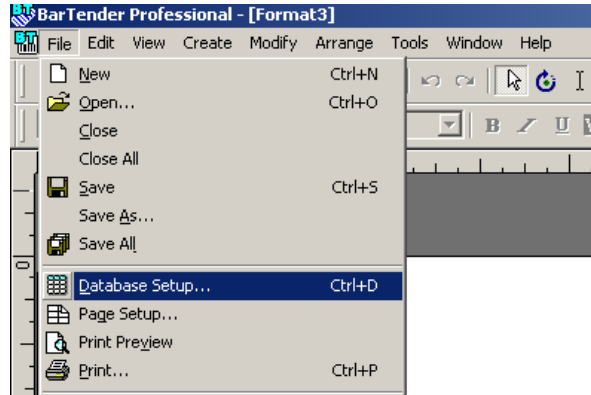

Figure 70
Step 1 – Open Bartender. Open a new label. Select FILE | DATABASE SETUP (Figure 70).